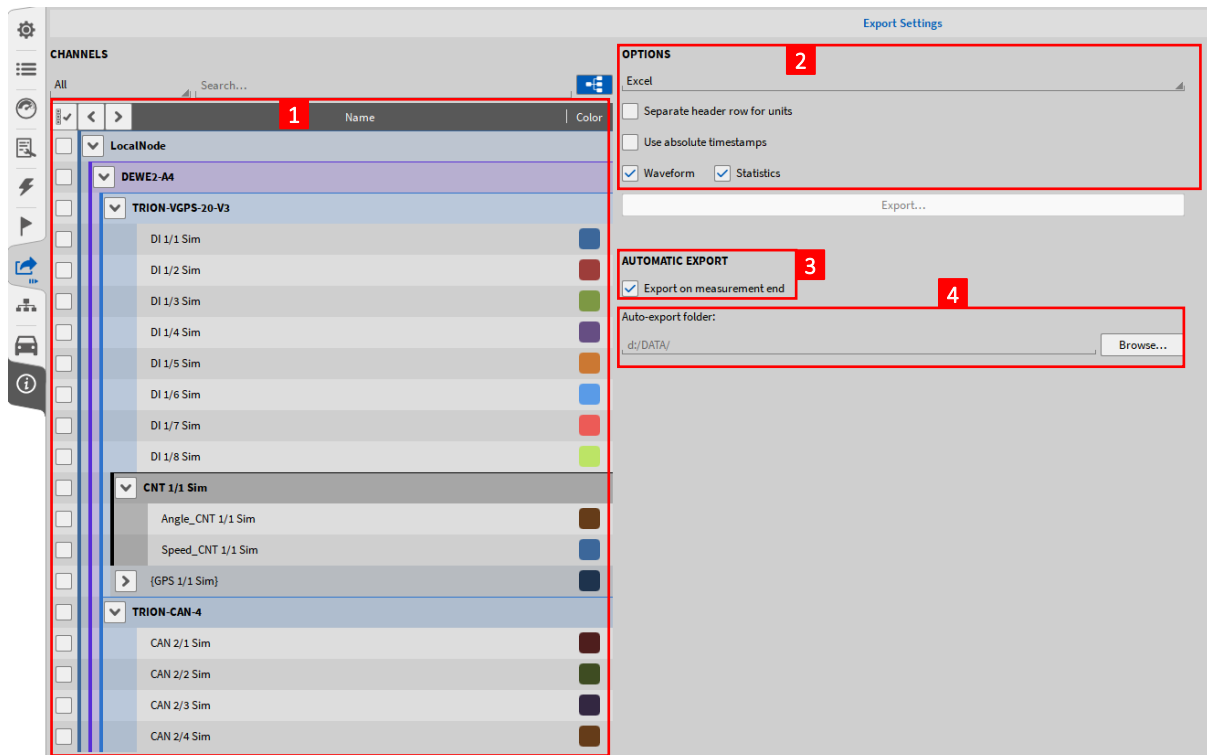

Figure 9-7: Export menu, Auto-export settings
- Open the Export menu and enlarge it to the full screen (see Figure 9-7):
- Select either all or individual channels that shall be exported automatically after the measurement is finished (see ① in Figure 9-7) by checking the certain checkboxes on the left-hand side
- Select the desired file format and its individual export options (see ② in Figure 9-7). For details about the export options, please refer to section 9.2 for *.csv-files, section 9.3 for *.txt-files, section 9.4 for *.dmd-files, section 9.5 for *.mdf4-files, section 9.6 for *.mat-files and section 9.7 for *.xlsx-files.
- Check the checkbox *Export on measurement end* (see ③ in Figure 9-7)
- Specify the desired directory the export files shall be stored to (see ④ in Figure 9-7)